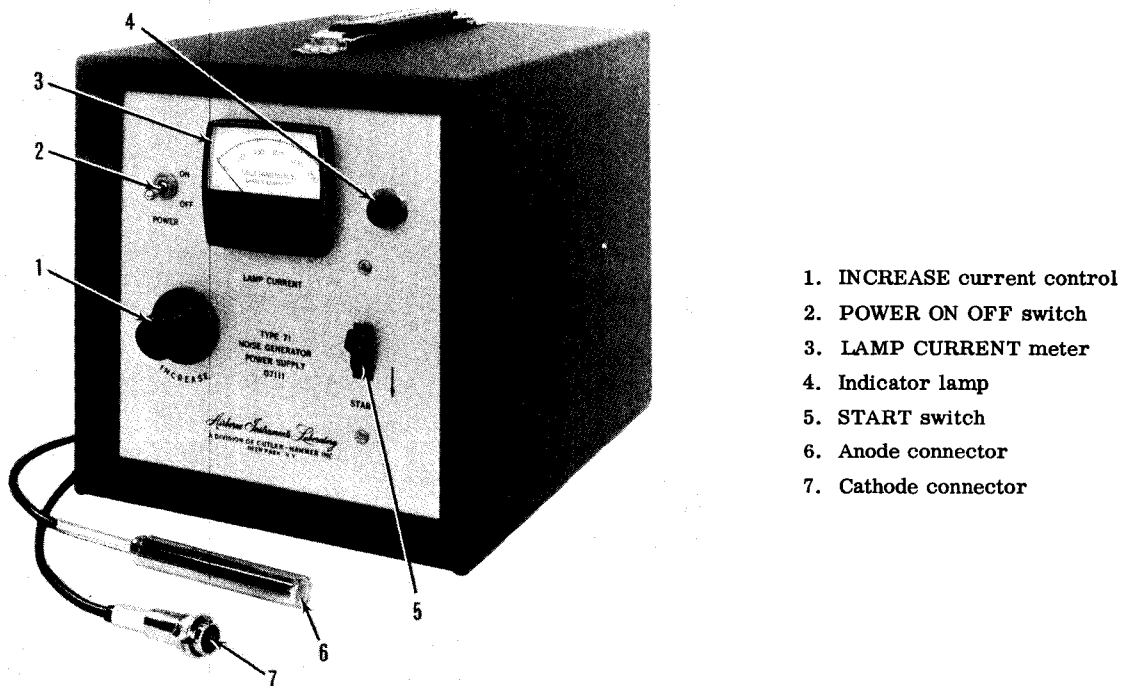

FIGURE 2. FRONT-PANEL CONTROLS AND INDICATORS
The AIL Type 71 Noise Generator Power Supply, Part Number 07111 (hereinafter referred to as the Type 71), provides the high voltage necessary to fire argon and neon discharge tubes in noise generators (Figure 1). The output discharge current from these tubes can be adjusted to 250 mA with the INCREASE current control (1, Figure 2). Filament-type and cold cathode tubes can be operated from the Type 71.
| Nomenclature      | Index No.(Figure 2) | Function                                |
1. Connect the cathode connector (7, Figure 2) to the cathode end of the noise generator being used. Insert the cathode connector in line with the axis of the noise generator. To prevent damage to the noise lamp, be sure that the tube pins line up with the connector. The nut retaining spring must seat flush against the connector mount, without excessive pressure, before the locknut is tightened.
2. Push the anode connector (6) into position at the anode end of the noise generator.
4. To fire the lamp, place the POWER ON OFF switch (2) to ON; the indicator lamp (4) should light. Push the START switch (5) down and then release it. This generates a high-voltage pulse between the anode and the cathode of the tube and ionizes the gas.
6. Set the POWER ON OFF switch (2, Figure 2) to ON.
7. Close the spring-loaded START switch (5) and release it. Measure the spike voltage amplitude on the oscilloscope as the START switch (5) is operated.